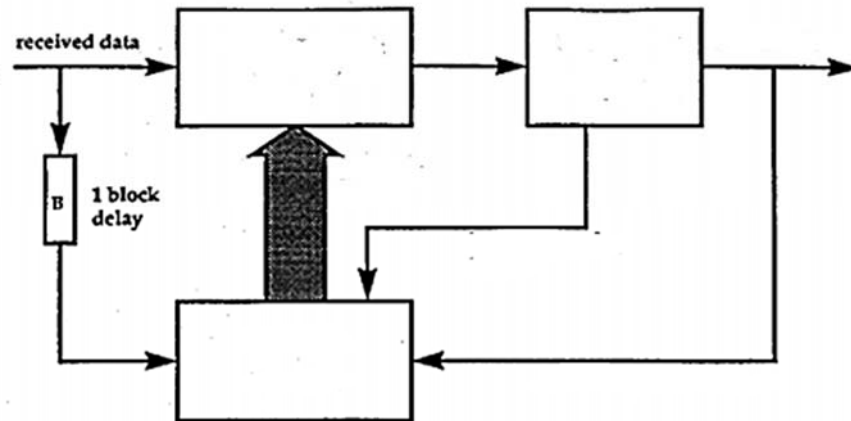

Figure 4.1
4. Figure 4.1 is a schematic representation of complex receiver front end with an equalizer and an FEC.
- (a) From Figure 4.1, identify two blocks that the equalizer and the FEC can be placed in. (4 marks)
- (b) From Figure 4.1, identify three possible feedback loops and explain the impact of feedbacks to the receiver front end design. (3 marks)